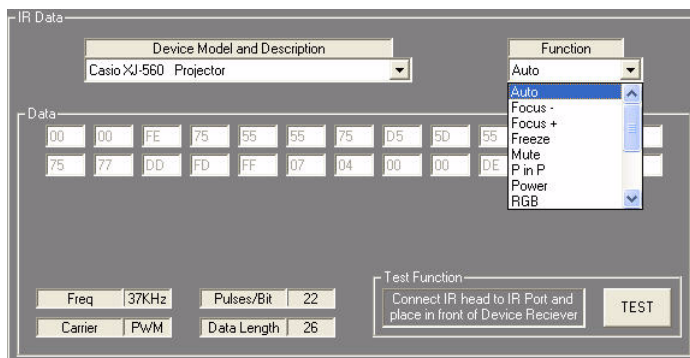

FIG. 84 AMX Library Files dialog - Selecting a Function for testing
1. In the AMX IR Libraries dialog, select the function to test from the *Function* drop-down menu (FIG. 84).